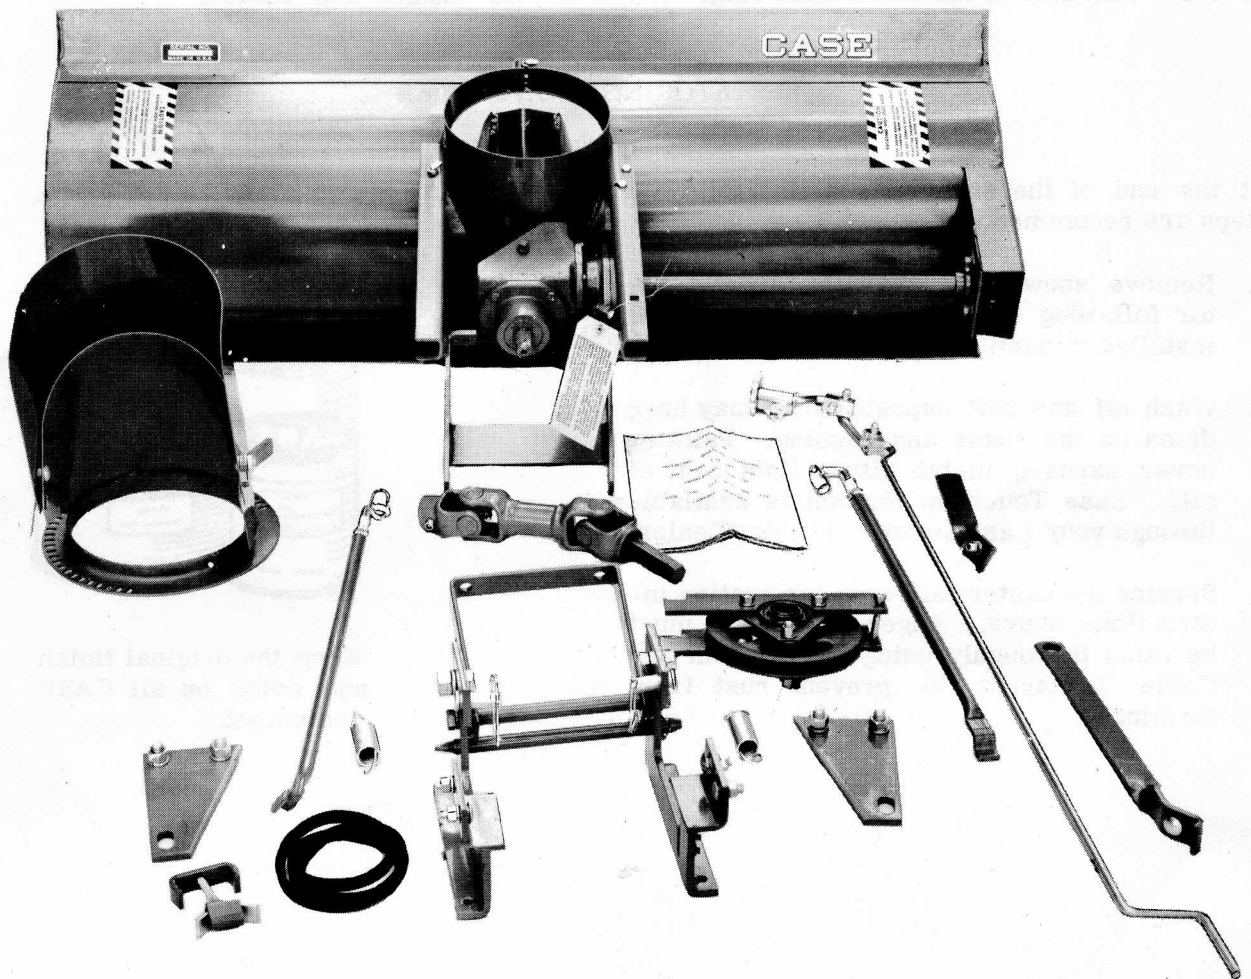

Figure 4. Snowcaster Removed from Shipping Carton
- B. Before setting up the snowcaster lay out the individual parts as illustrated in Figure 4. To simplify the original installation, all components are preassembled as far as possible and the attaching hardware is installed in its proper location.